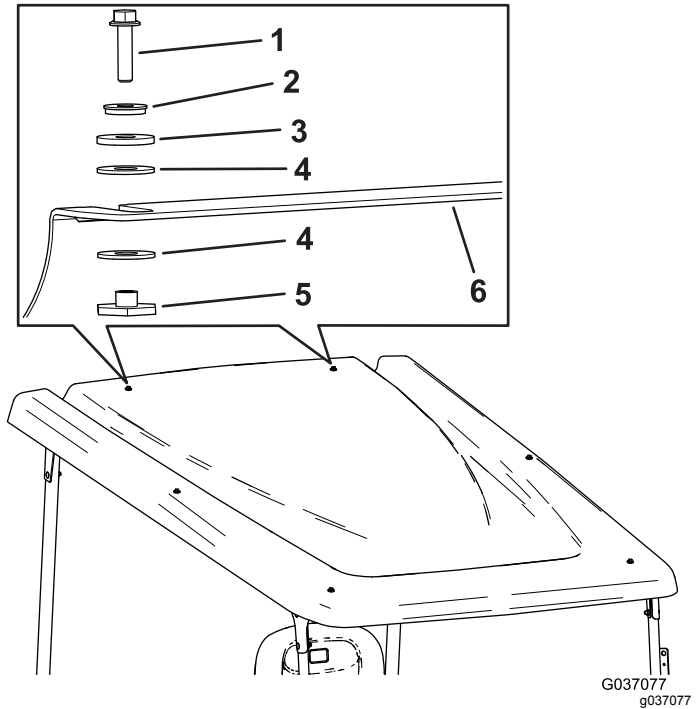

Figure 16
18. Install the sunshade to the rear crosslink using 2 hex-flange bolts (1/4 x 1 inch), 2 sealing washers, 2 friction washers, 4 plastic washers, and 2 flange bushings (Figure 16).